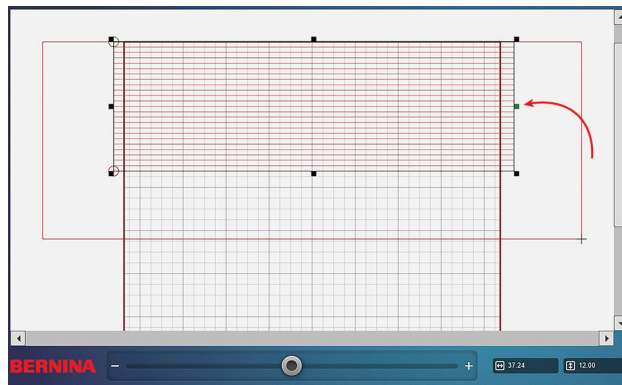

Fig. 69
7. With the design still selected, re-open Resize and de-select Maintain Ratio. Right-click or touch the center black node on the right side of the design to activate it and turn it green. Pull that node until the design stretches all the way across the grid and hangs over the right side a little (Fig. 69). It is best to have a little extra on the sides than not enough. Confirm with the green check mark.